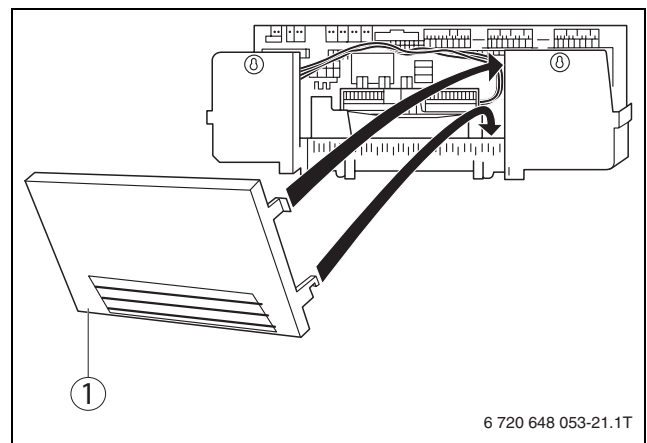

Fig. 24 Preparing the cable entry
- ▶ Knock out or cut out the appropriate parts from the back panel (→ Fig. 24, [1]) as required.